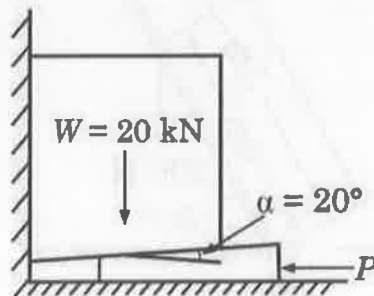

Fig 10
- (b) Determine force P required to start the movement of the wedge as shown in Fig. 10. The angle of friction for all surfaces of contact is 15° .